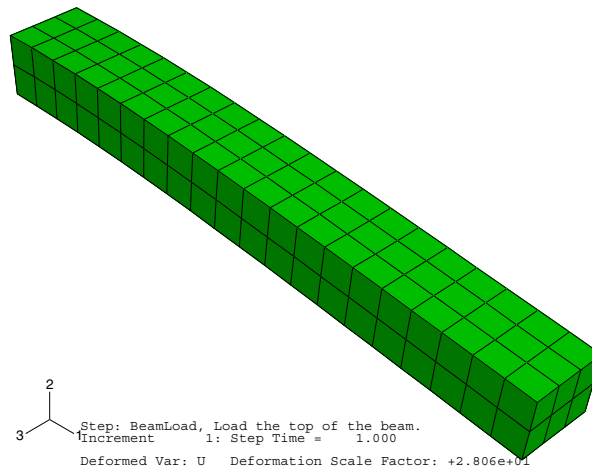

Figure B-14 Deformed shape plot of model (title block suppressed).
3. Click the auto-fit tool  so that the entire plot is rescaled to fit in the viewport, as shown in Figure B-14.